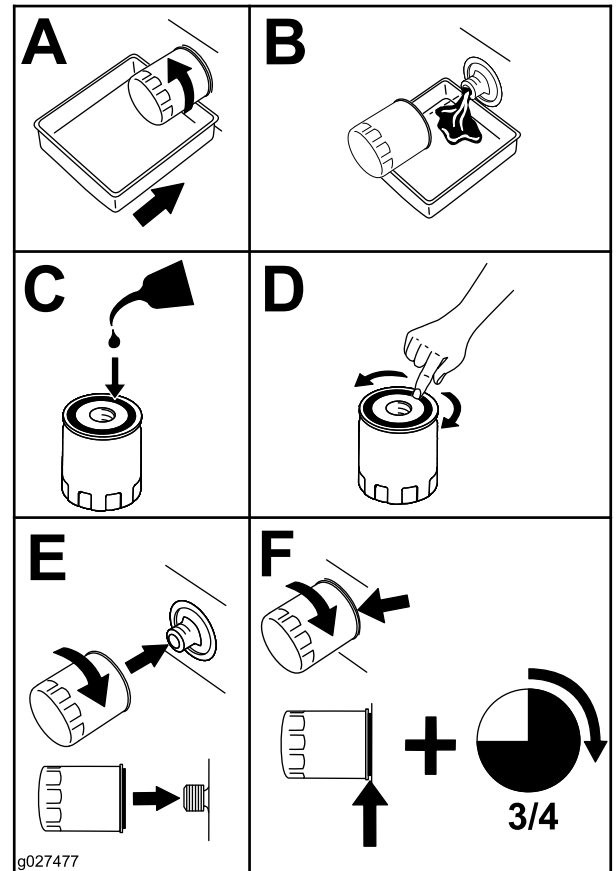

Figure 62
6. Replace the engine-oil filter as shown in Figure 62.